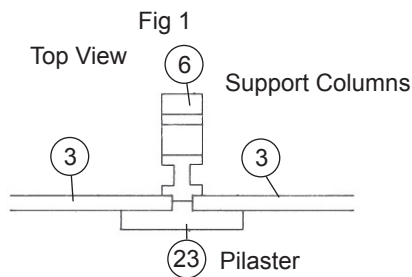

Fig 1
1. Glue window frames (16, 18) to appropriate openings in the end walls (3). Glue windows (20, 22) in place. NOTE: If you wish to have the doors in a closed position, glue them (19) in place. Next, glue frames (16, 17) and windows (20, 21) in place on the side walls (2).
2. Glue end pilasters (4) to end walls (3). Then, glue four support columns (6) to the inside of each end wall. NOTE: The support columns that go in the corners must have their lower crane support brackets removed so not to interfere with the windows (see fig. 1) Next, glue craneway girders (8) in place on support columns. Glue inner wall pieces (5) to backs of side walls (2). Now, glue the walls to the base (1) and the trusses (7) to the upper brackets of the middle two support columns. NOTE: There will be an extra truss left over.
4. This building is designed to be made wider by combining two or more kits. The end wall can be expanded by using the splice pilaster (23) between two wall (3) sections and gluing the support column (6) to the back of the walls, fig. 1. To accommodate the new wall size, the base must be modified. For splicing two buildings together, you must cut off one side of each base to the outside of the narrow ridge underneath, as shown in fig. 2, and then glue the modified sides of the bases together. For more than two buildings, the middle base(s) must have both sides removed fig. 3 - in addition to the end bases having one side removed, before gluing all together.